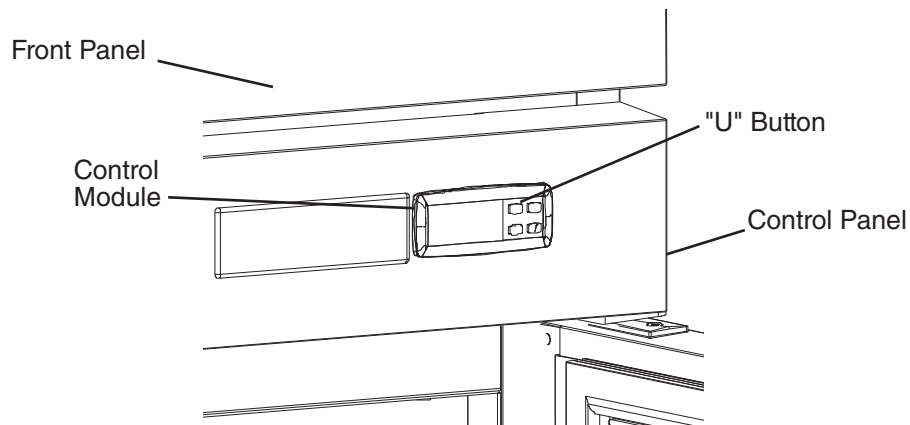

Fig. 29
- 2) Press and hold the "U" button on the control module until a dot appears in the display, then unplug the appliance from the electrical outlet. See Fig. 29.